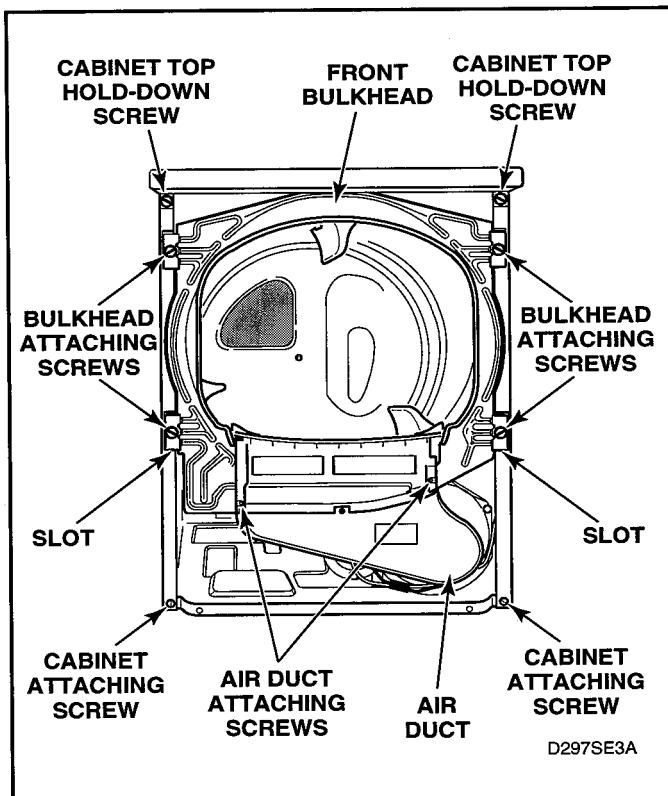

Figure 5-24
- h. Remove four screws holding bulkhead to front flange of cabinet and lift complete bulkhead assembly out of slots in cabinet. See figure 5-24.
- f. Remove four screws holding bulkhead to front flange of cabinet. Then, lift complete bulkhead assembly out of slots in cabinet. See figure 5-24.
- Remove four screws holding bulkhead to front flange of cabinet. Then lift complete bulkhead assembly out of slots in cabinet. See figure 5-24.
- Loosen two cabinet top hold-down screws. See figure 5-24.